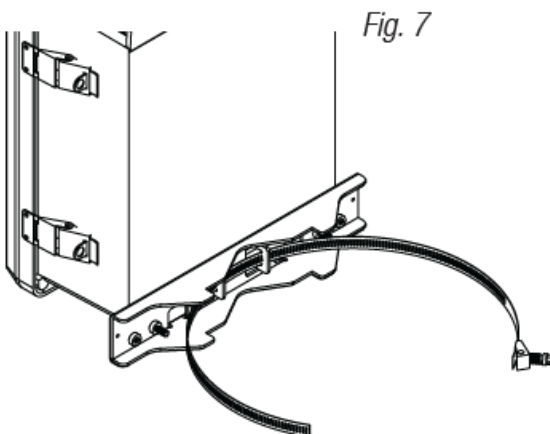

Fig. 8
5. Mount the enclosure onto the top bracket by inserting bolts through the flange of the enclosure and into the bracket, tightening bolts with a 7/16" hex socket (Fig. 8, pg. 7).
6. Tighten the straps of the bottom bracket down by sliding the open end of the strap through the locking mechanism on the strap, then tighten the screw with a flat head screwdriver or 5/16" hex socket driver (Fig. 8, pg. 7).